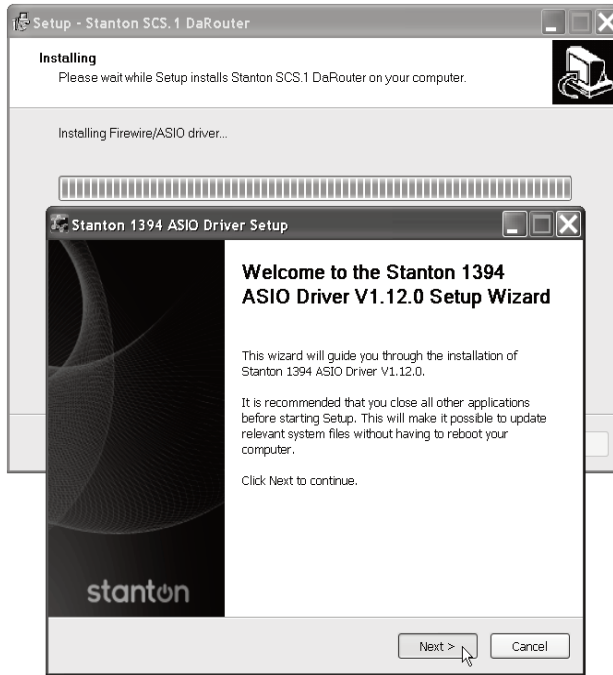

Figure 4.5
- The installation of the ASIO driver will begin. Make sure that your SCS.1 controller(s) are properly connected but do not turn them ON yet. When you are ready, click **Next**. (Figure 4.5)